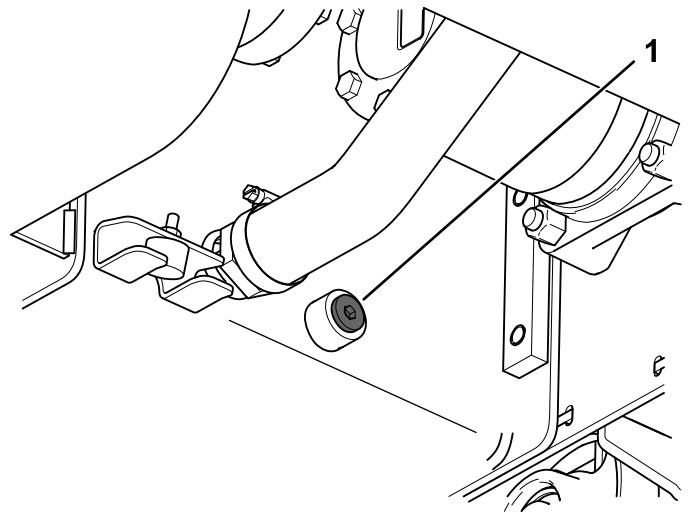

Figure 67
9. Remove the drain plug and allow the hydraulic fluid to drain into the pan (Figure 67).
- A. Remove the 2 bolts and nuts securing the boom to the trencher arm (Figure 67).